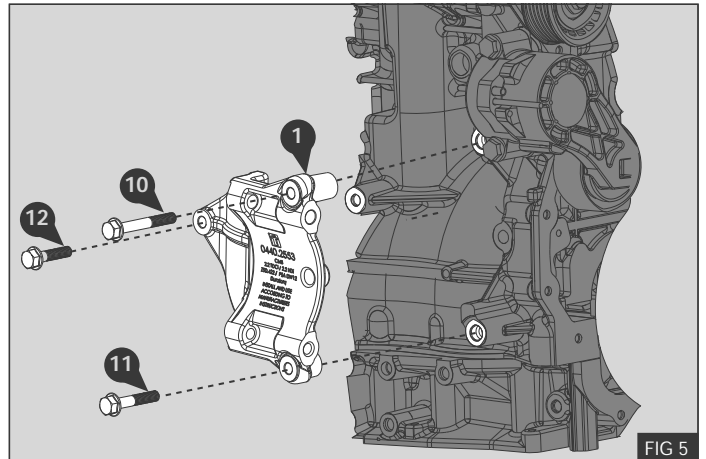

FIG 5
NB: Ensure the correct length bolt is installed in the correct location shown in Fig 5.
1. Install the supplied compressor mount bracket assembly ① in the position shown and secure using bolts M8 x 60 ⑩, M8 x 45 ⑪, M8 x 35 ⑫ - Fig 5
2. Torque bolts ⑩ ⑪ ⑫ to 25Nm / 18lb.ft. using a calibrated torque wrench.